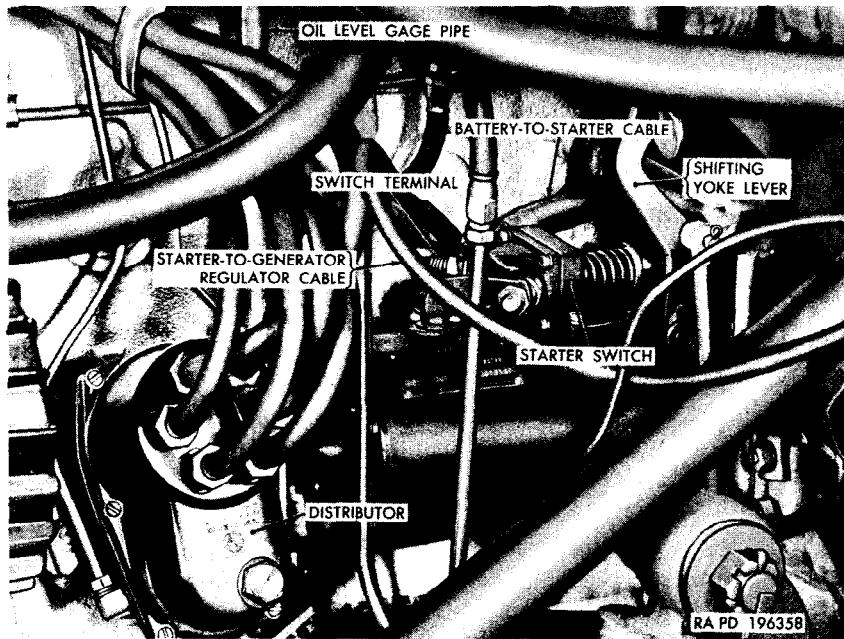
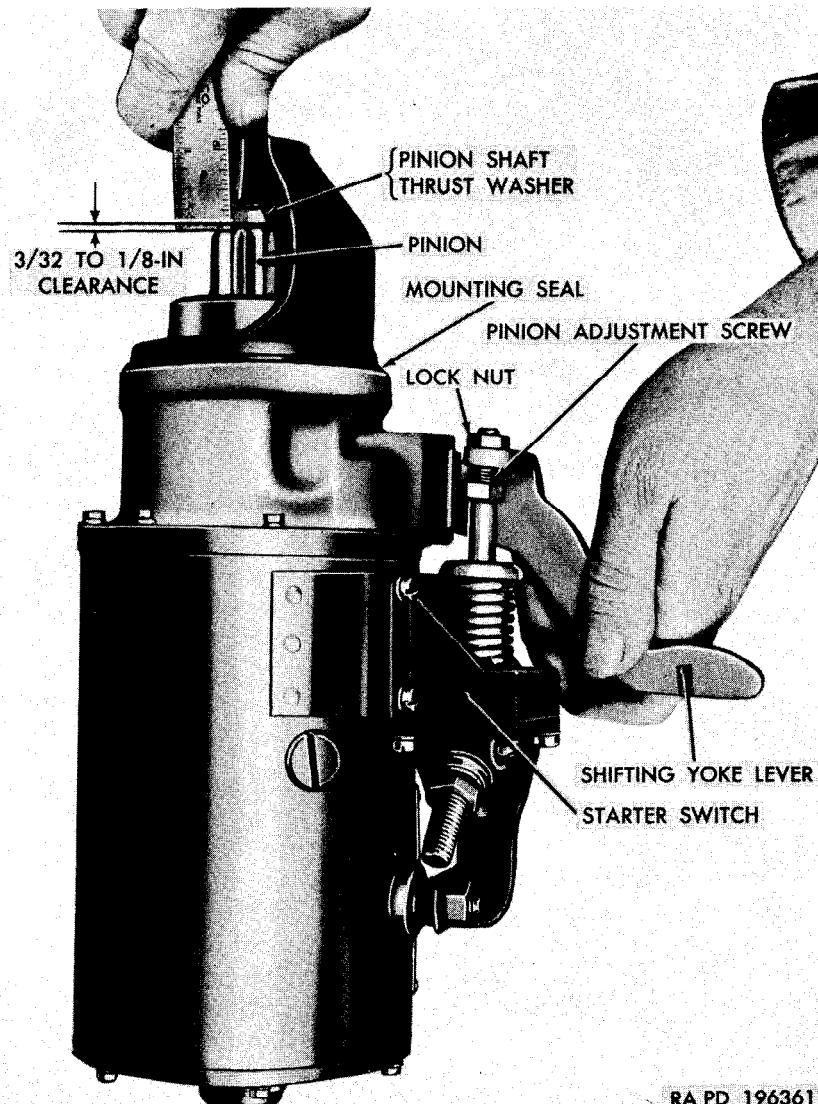

Figure 125. Starter installed.
Figure 128. Pinion adjustment for late-type starter.
- (2) Remove the distributor (par. 125a).
- (3) Unscrew the oil level gage pipe (fig. 125) from the cylinder block, and remove the pipe and gage.
- (4) Remove the nut from the starter switch terminal (fig. 125) and remove the battery-to-starter cable, starter-to-regulator cable, and the starter-to-slave receptacle cable (if so equipped) from the starter switch terminal.
- (5) Remove the two nuts and lockwashers that secure the starter to the studs in the clutch housing and remove the starter. Remove and discard the starter mounting seal (fig. 128).
- (1) If the two starter mounting studs were removed (a(6) above) install new $\frac{7}{16}$ -14NC x $\frac{7}{16}$ -20NF x $1\frac{1}{16}$ studs in the clutch housing with the coarse thread end in the housing. Tighten the studs.
- (2) Install a new starter mounting seal (fig. 128) and place the starter (fig. 125) in position on the clutch housing. Install the two $\frac{7}{16}$ -inch lockwashers and $\frac{7}{16}$ -20NF nuts. Tighten the nuts.
- (3) Connect the battery-to-slave receptacle cable (if so equipped), the starter-to-regulator cable, and battery-to-starter cable to the front terminal of the starter switch (fig. 125) and install the terminal nut. Tighten the nut.
- (4) Install the oil level gage and gage pipe through the pipe support and screw the pipe into the opening in the cylinder block.
- (5) Install the distributor (par. 125*b*).
b. Replacement (Late-Type Switch) (fig. 128).
- (1) Remove the starter (par. 158a).
b. *Adjust Starter Pinion (Late-Type).* Place the starter in a vertical position and push the shifting yoke lever (fig. 128) to the forward (engaged) position. While holding the lever firmly, measure the distance between the starter pinion and the pinion shaft thrust washer. This measurement should be from $\frac{3}{32}$ to $\frac{1}{8}$ inch. If the clearance at this point is not within the specified limits, loosen the locknut on the pinion adjustment screw, and turn the screw as required until correct clearance is obtained. Turning the screw clockwise decreases the clearance and turning it counterclockwise increases the clearance. Tighten the adjusting screwnut after making the adjustment.